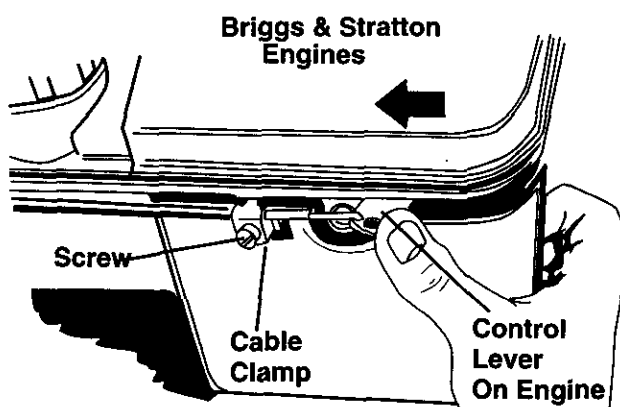

Figure 16
1. Remove the screw shown in Figure 16. Remove the cable clamp from the cable.